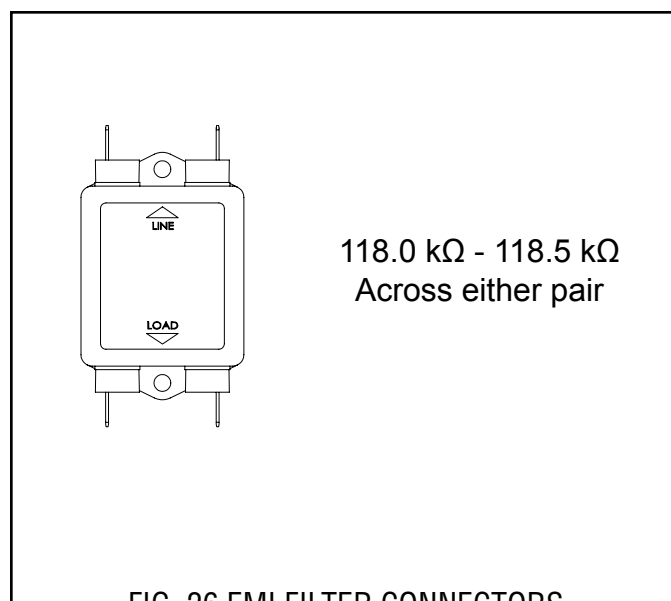

FIG. 26 EMI FILTER CONNECTORS
4. Check for voltage across each pair of wires as indicated in Fig. 26. Connect the dispenser to the power supply. The indication must be:
5. Refer to Fig. 26 when reconnecting the wires.